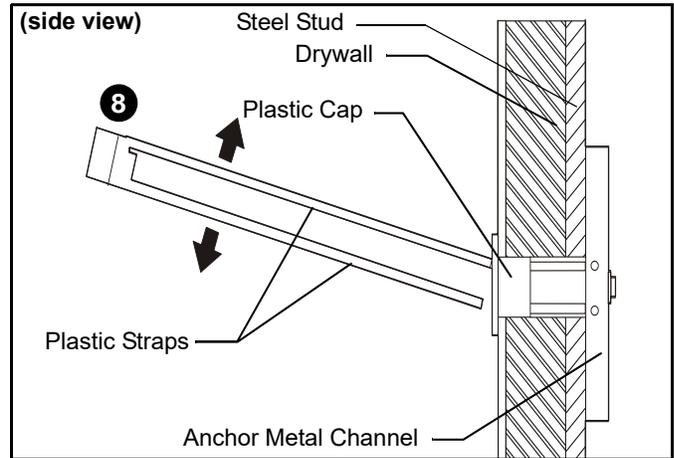

Figure 10
8. Snap off plastic straps on anchor at wall by pushing side to side, snapping off straps level with flange of plastic cap. (See Figure 10)